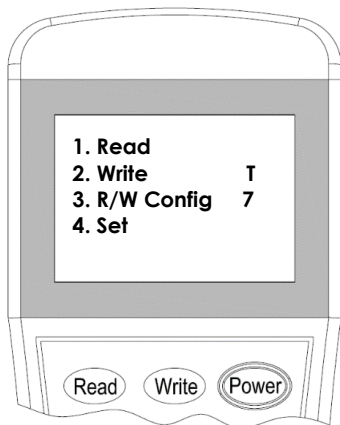

Figure 4
2. Switch-on the programmer, then press button **“Write”** or number **“2”** to enter Write Address mode (Figure 4).